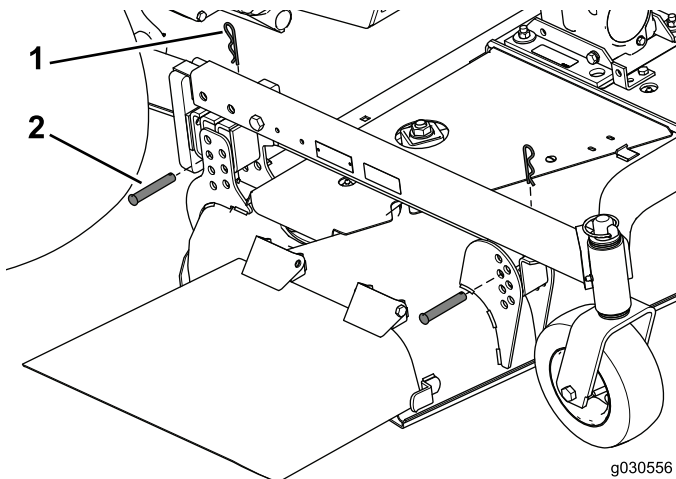

Figure 24
2. Use a clevis and hairpin to secure each section of the mower deck to the carrier frame (Figure 24).